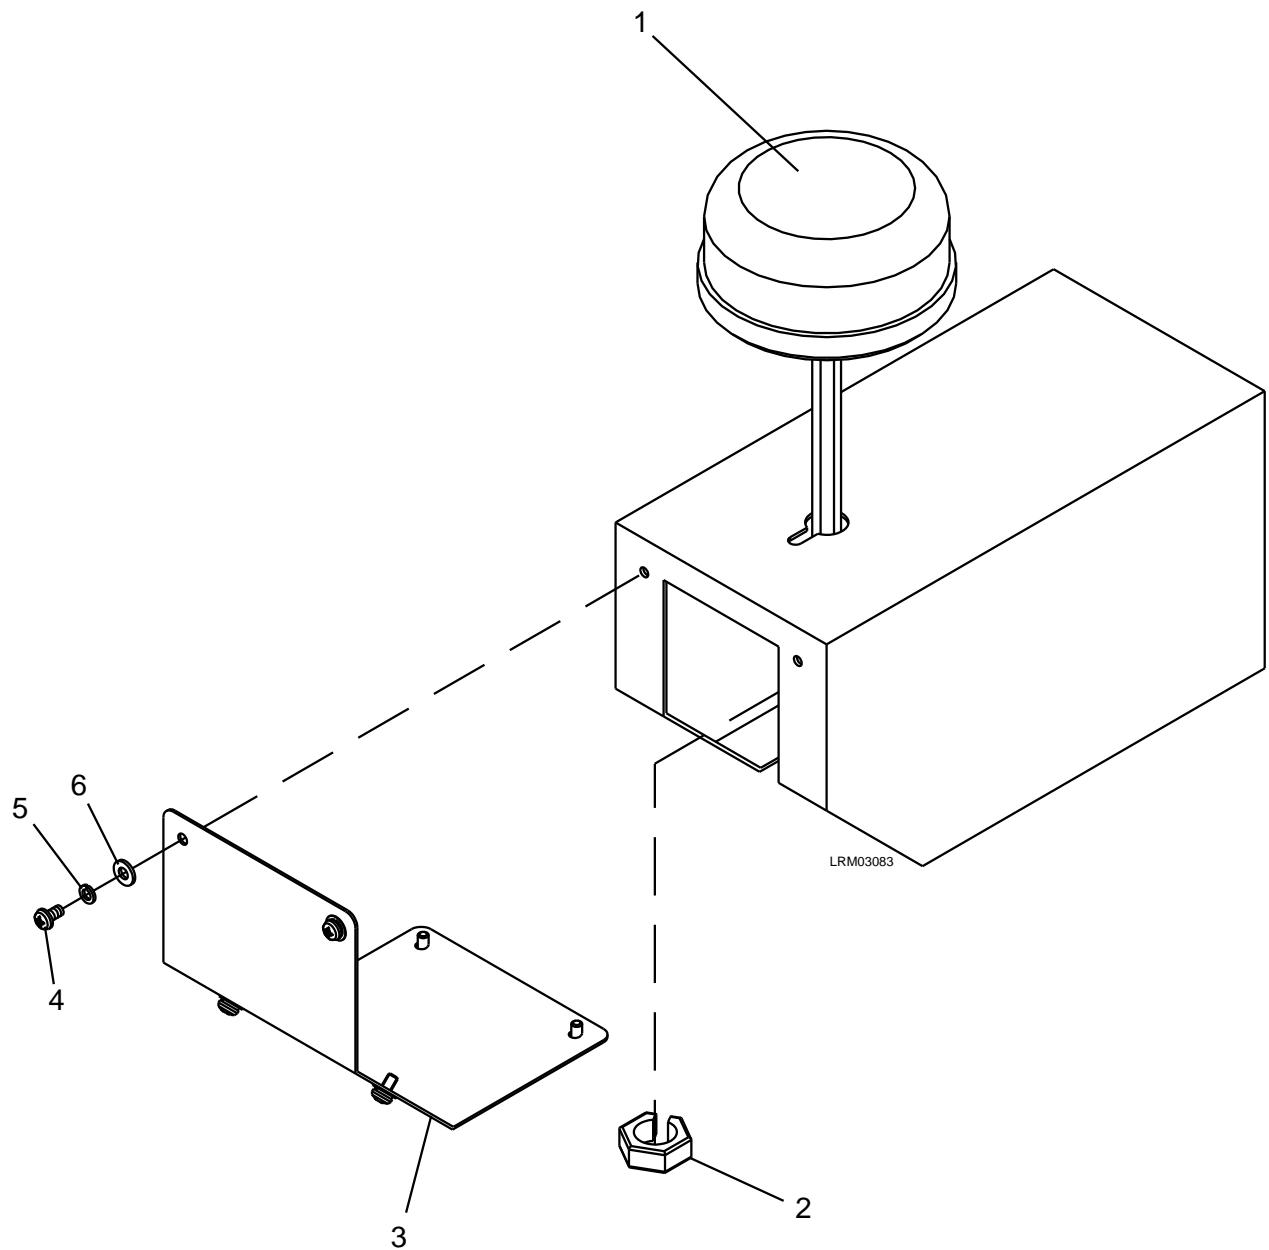

Figure 7-129: WLAN Antenna
1. Remove the six M4 x 12 screws (4), M4 lock washers (5), and M4 plain washers (6). See Figure 7-129.
2. Remove the cover (3).
3. Remove the electrical connectors to the WLAN Antenna (1).
4. Remove the split nut (2).
5. Carefully remove the WLAN Antenna (1).